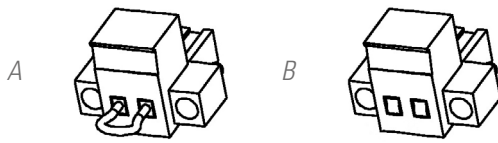

Fig. 4. Connector for external EPO.
- Either by removing the female connector from the socket where it is inserted. This connector has a cable connected to it as a bridge that closes the circuit (see Fig. 4-A).
- Or by operating the push button external to the equipment and owned by the user and installed between the terminals of the connector (see Fig. 4-B). The connection on the push button must be on the normally closed contact -NC-, so it will open the circuit when it is actuated.